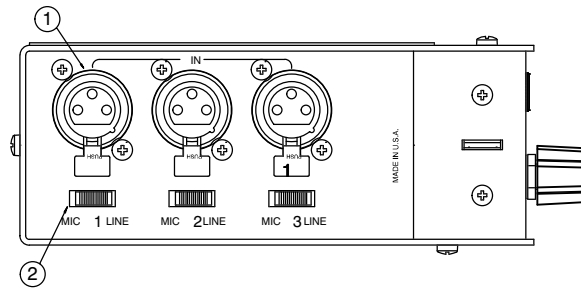

Figure 2
**INPUT PANEL CONNECTORS AND CONTROLS (Figure 2)**